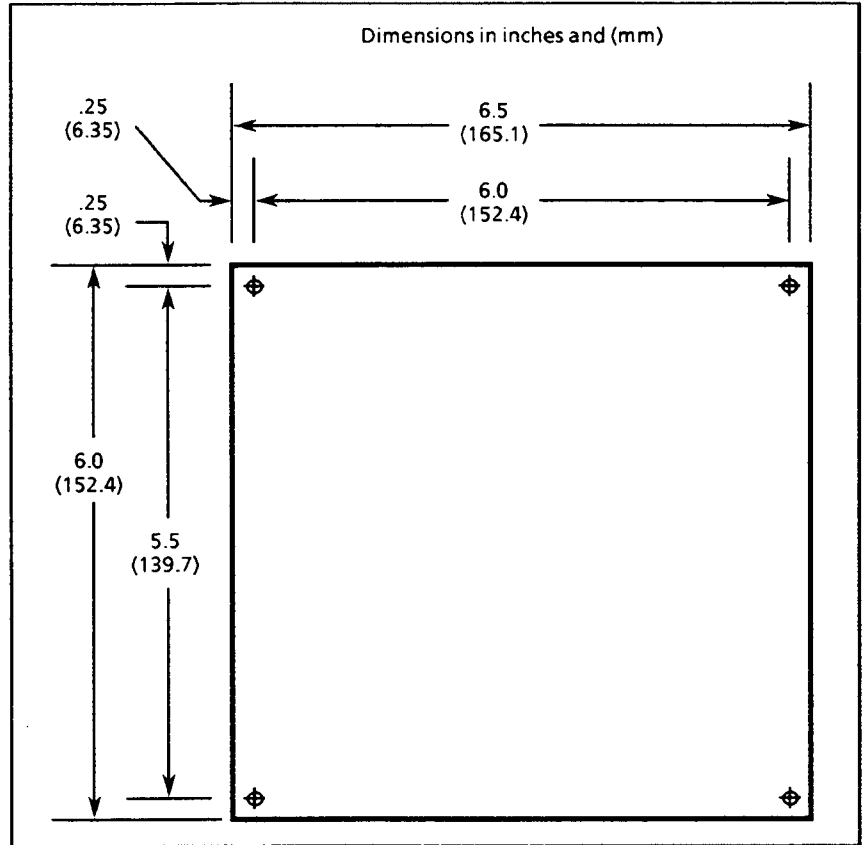

Figure 1 – BCD Interface Board Dimensions
3. Using the dimensions provided in Figure 1, mark the location of the holes to be drilled.